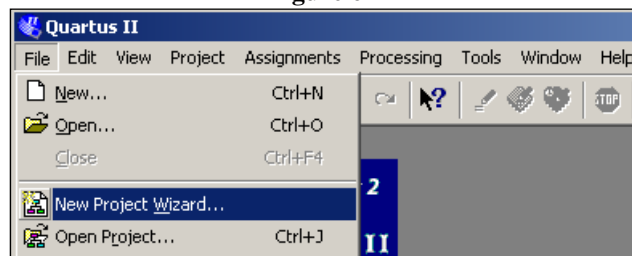

Figure 6-3
2. From the main menu, select **File > New Project Wizard**. See Figure 6-3. An Introduction box may appear describing the features of the New Project Wizard. Click Next.